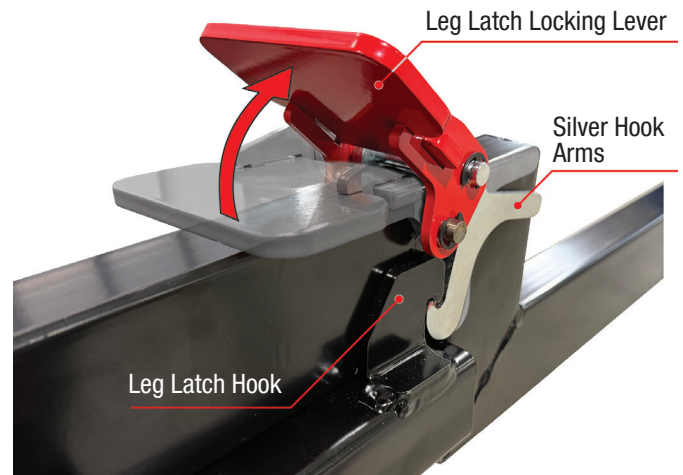

Figure 7-2: Unlocking Legs
3. Unlock each leg by lifting the red leg latch locking lever and the silver hook arms to disengage from the leg latch hooks (see Figure 7-2).